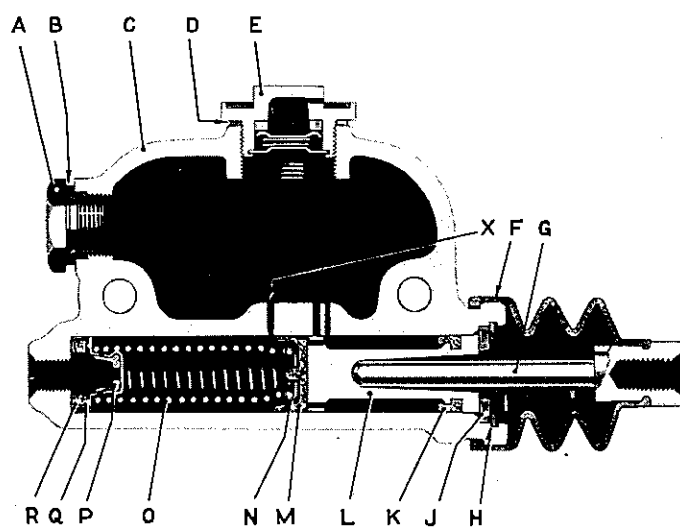

Fig. 1.
The correct amount of free play between the push rod (G) and the piston (L), Fig. 1, is set when the vehicle is assembled and should not be altered. If the adjustment has been disturbed, reset the length of the rod connecting the push rod to the pedal so that the pedal can be depressed approximately $\frac{1}{2}$ " before the piston (L) commences to move; this free play can readily be determined if the pedal pad is depressed by hand.
(See Fig. 1)